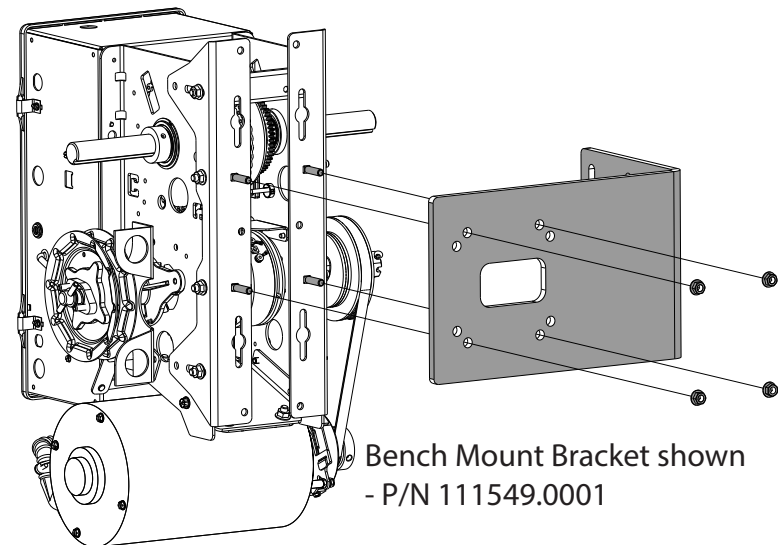

Figure 23
- Attach operator to bench mounting bracket using the four 5/16"- 18 X 1-1/4" carriage bolts, hex nuts, and lock washers provided. See Figure 23